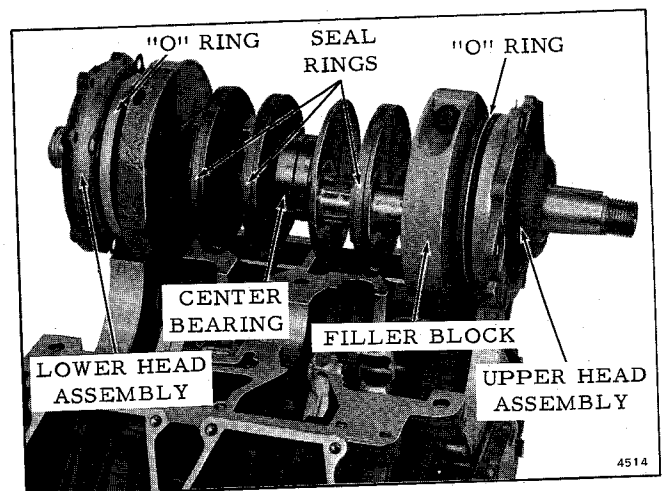

Figure 5-11. Removing Crankshaft
b. Lift crankshaft and crankcase heads from cylinder block and place on bench for disassembly. See Figure 5-11. Reinstall connecting rod caps on rods and remove the connecting rods and pistons from the cylinders.